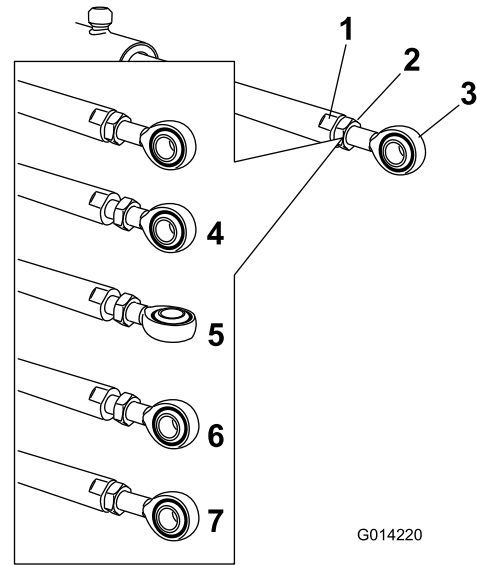

Figure 106
5. Use a wrench on the flat sides of the actuator rod to immobilize it, then loosen the jam nut to allow the eyelet rod to be adjusted (Figure 106).
6. Turn the eyelet rod in the actuator rod to shorten or lengthen the extended actuator to the desired position (Figure 106).